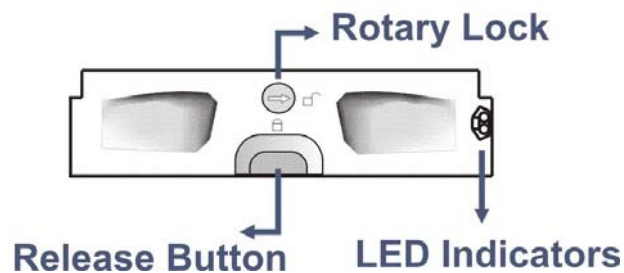

Figure 2-6: Front View of an Individual Drive Tray
- Step 1. Make sure *the rotary bezel lock is in the unlocked position*, i.e., the groove on its face is in a horizontal orientation. If the groove is in a vertical position, as shown in *Figure 2-6*, then the bezel lock is locked and the front flap on the drive tray cannot be opened.